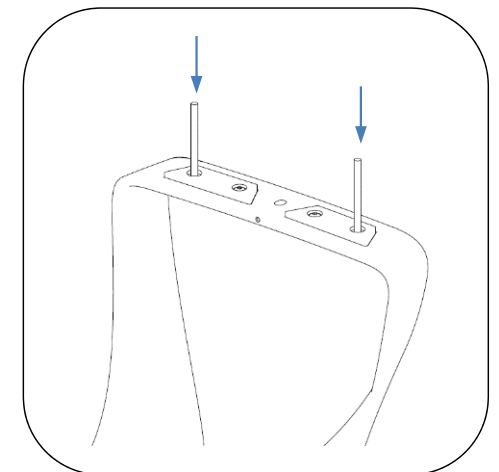

Fig. 6 – Install threaded rods in bench for embedding
3. Install threaded rods as shown in Fig. 6.